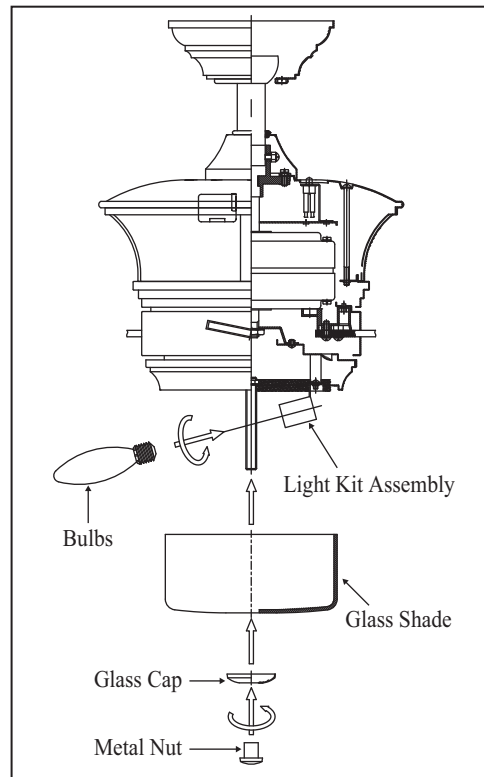

Figure 18
5. Remove the glass cap and metal nut from the light kit stem. Raise the glass shade up against the mounting plate and place the glass cap over the light kit stem, secure it with the metal nut. (Fig. 18)